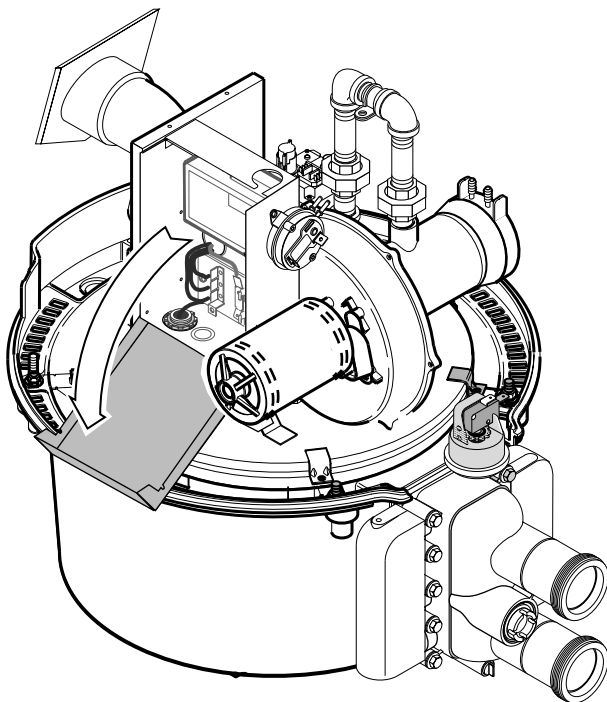

FIGURE 24: Open Control Box Cover
3. Open control box cover (see Figure 24).